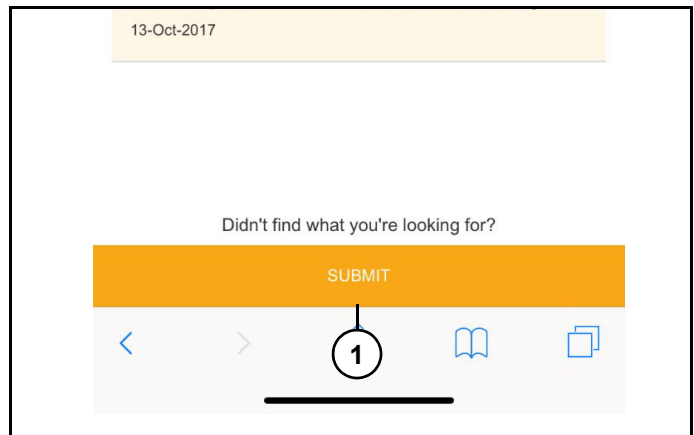

Figure 16
5. Click "Submit" (1) (Figure 16).